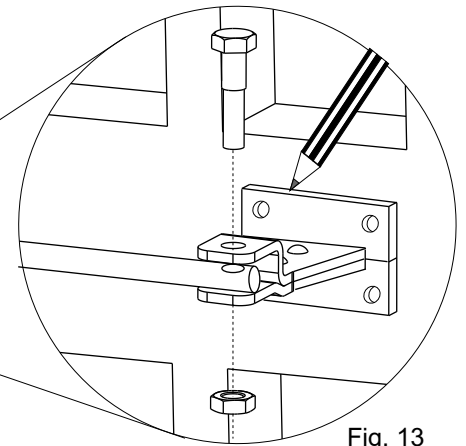

Fig. 13
3. Attach the shaft to the front bracket (Fig. 13)
4. Set the operator perfectly levelled and mark the position of the front bracket (Fig.13)